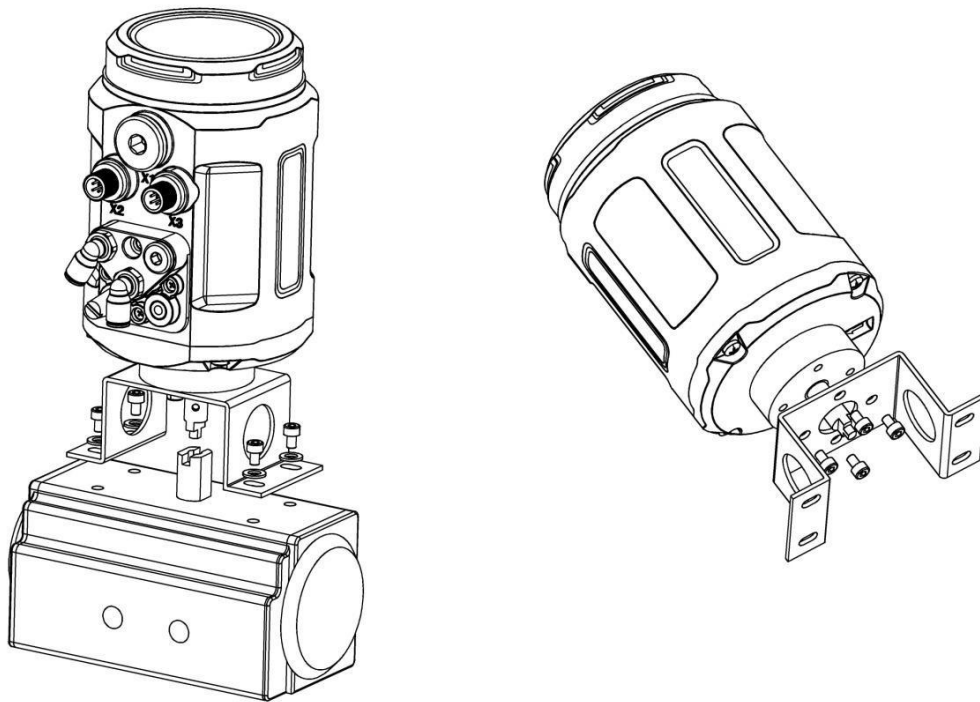

**Figure 7. Actuator Combination**
4. Make the actuator connection of the positioner entering into the thread connection of the actuator by **NO.32 wrench**. As shown in Figure 7.
If you need to adjust the interface angle, relax the hexagon screw in place A (As shown in Figure 7) first. Then adjust the angle clockwise or counter-clockwise in 180° range. After adjusting the angle, lock the angle by the hexagon screw.